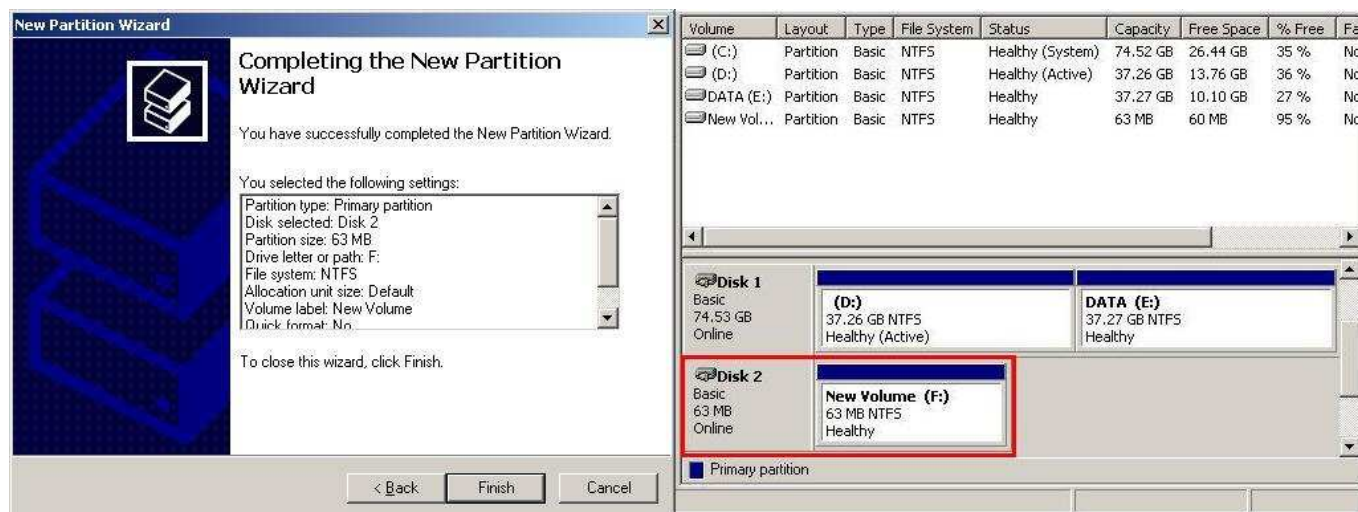

Figure 8 Format Complete
- After disk partition is finished. New disk is ready to use, as shown in Figure 8.